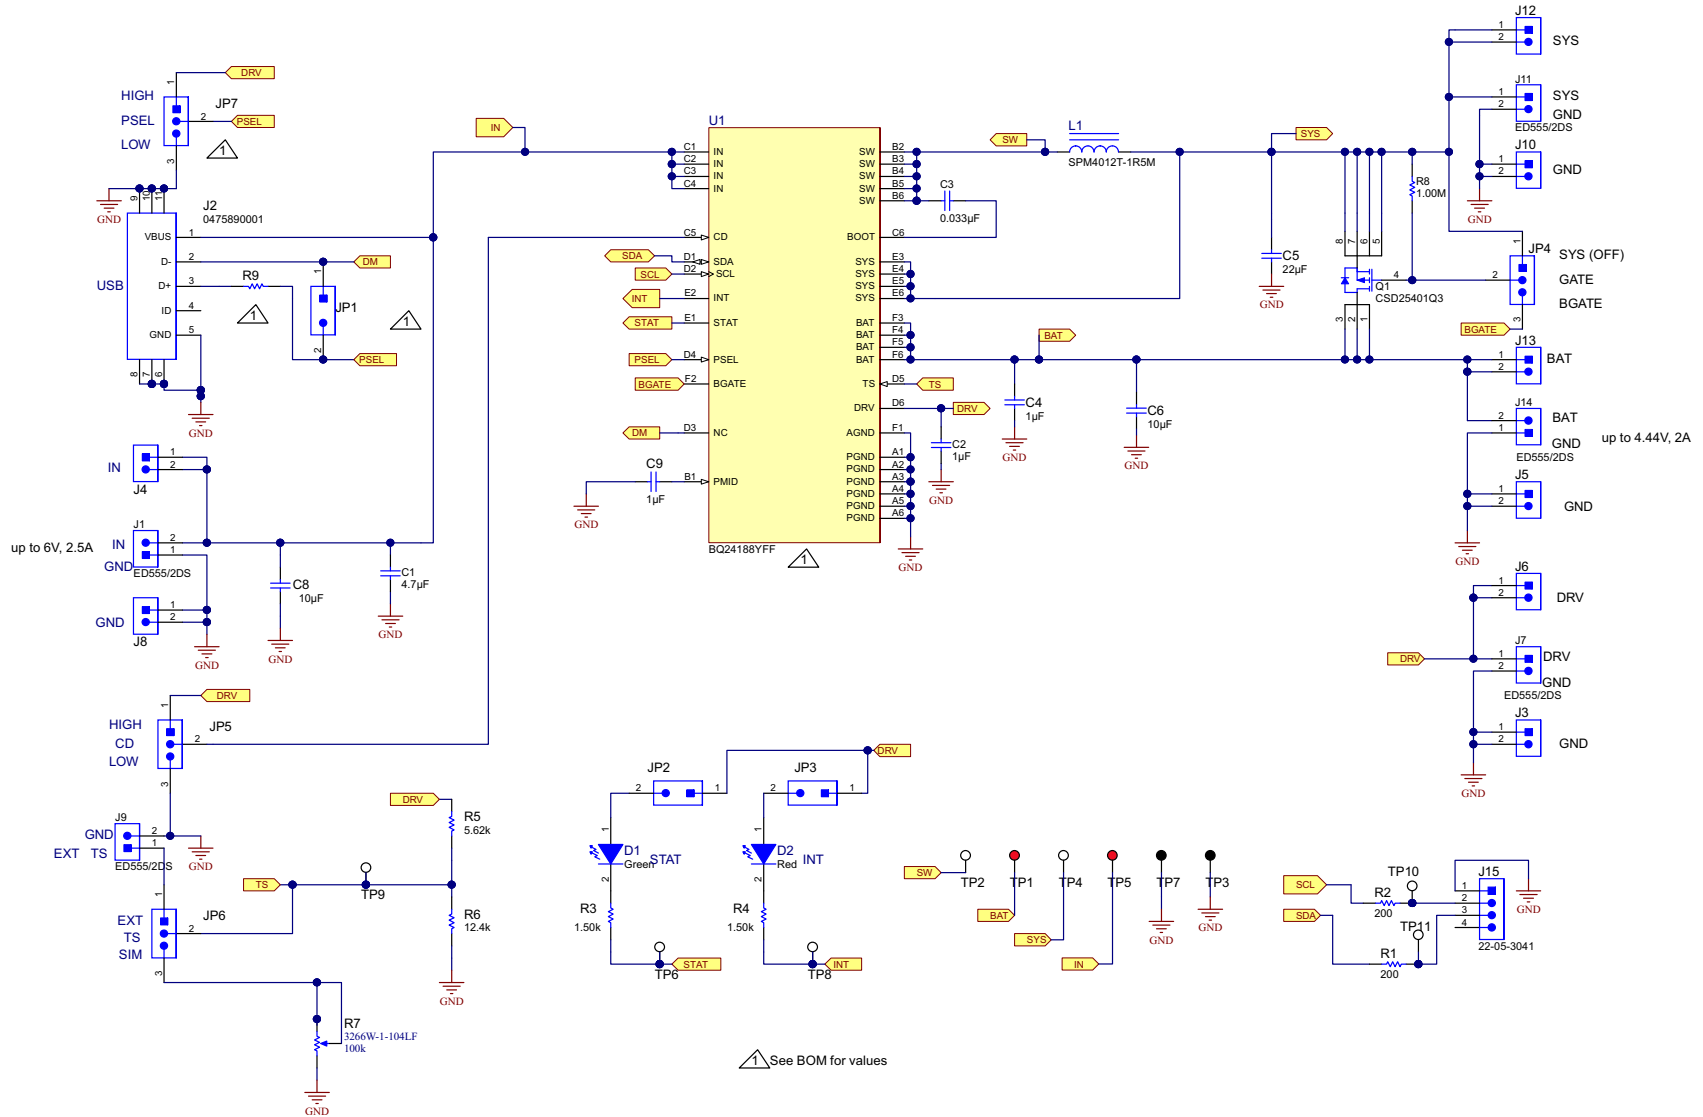

Figure 1. bq24188EVm Schematic
Figure 1 illustrates the bq24188 schematic.
3. If BAT_Load as shown in Figure 1 is used, connect Power Supply #2 (PS #2) set to approximately 3.6 V to the input side (PS #2+/-) of BAT_Load, then turn off PS #2.